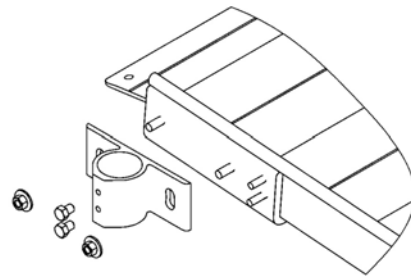

FIG. 40
- i) Install support tube bracket on each top ramp support bracket using two each 3/8" nylock nuts into the threaded holes and two each 3/8" flat washers. **DO NOT TIGHTEN** (FIG. 40).